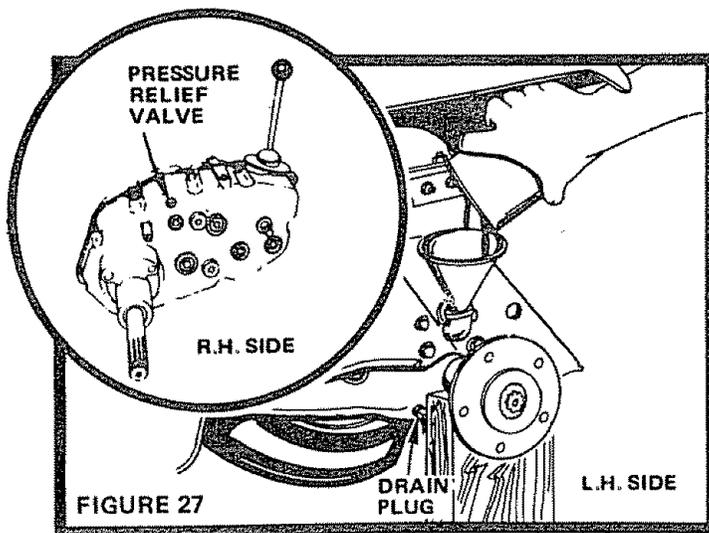

FIGURE 27
- Check Pressure Relief Valve (Fig. 27 - Inset) located on R.H. side near top. It should spring completely closed when pulled out by hand and released.
- b. Drain Transaxle Oil by removing Drain Plug (Fig. 27) and catching Oil in suitable container. Replace Drain Plug.
- c. Refill Transaxle with S.A.E. 30 (SC, SD or SE) Motor Oil. Capacity is 5 quarts. Pressure Relief Valve (R.H. side of Transaxle) (Fig. 27 - Inset) may be held open to allow Transaxle to fill more quickly.